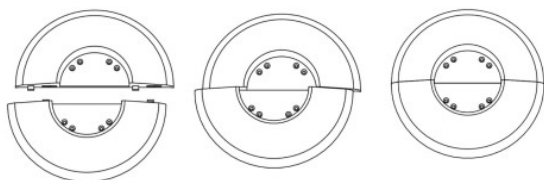

FIG. 1
1. Assemble the two parts of the base together (fig. 1);